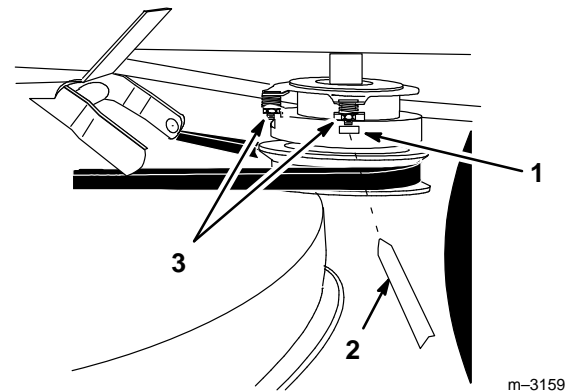

Figure 3
The electric clutch has three (3) adjustment nuts that all must be adjusted the same (Fig. 3).
1. Insert a 0.010 inch (.25 mm) feeler gauge into the slot (Fig. 3).